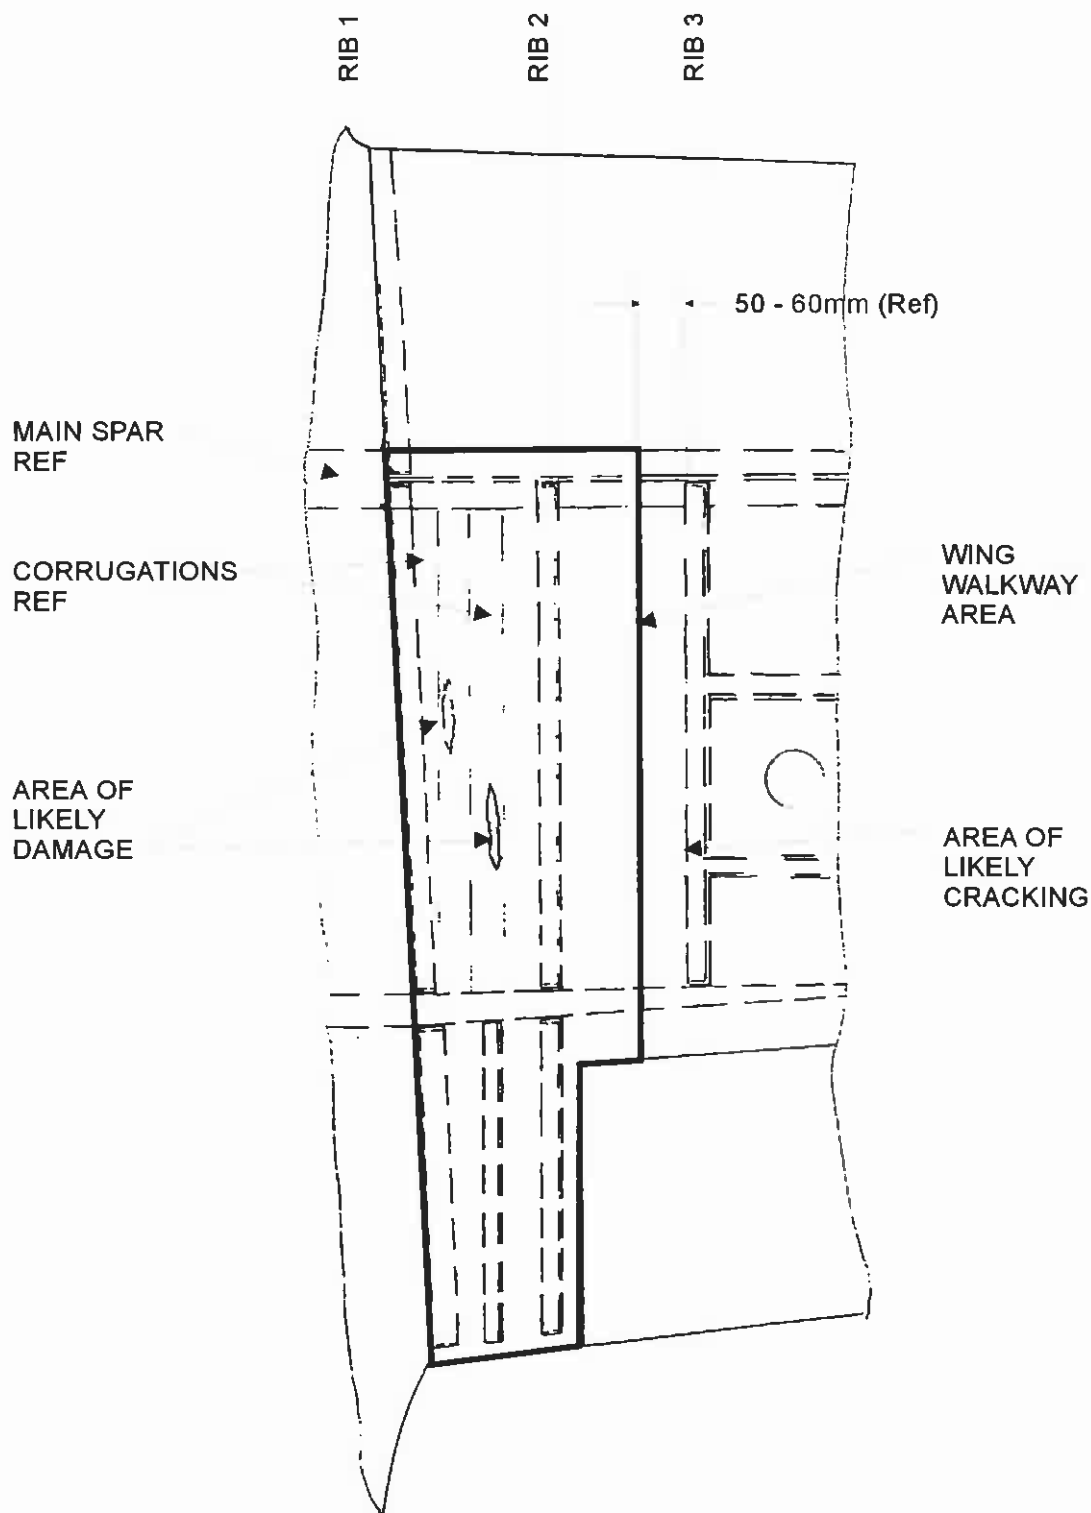

FIGURE 1 STBD (RH) DRN – PORT (LH) SIMILAR
Issue 3 Compliance revised, references to cracking inboard of Rib 3 added, Mod. M827 and repair scheme, T67G-03-075, added. Applicability reference T67M260 was works no 2234 and 2235 now "prior to works etc. Modification's Definitions Table 1 and Action Matrix added. Paragraphs 2 and 3 re-written to reflect Actions Matrix. Figure 1 amended to show area of Rib 3 cracking.
Two cases have been reported of delamination in the skin and corrugations in the area of the wing walkway. Reference Figure 1.
1. At next 150 (or 100 for US registered aircraft) flying hour check, reference Figure 1: